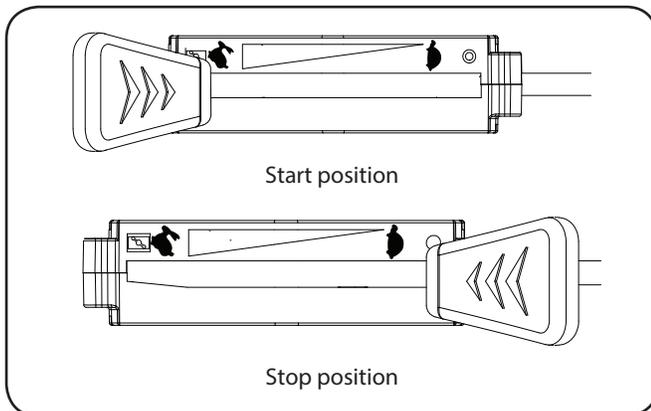

Figure 5-1
**NOTE:** Throttle control is only equipped to certain model mowers. Throttle control marked for "Stop" , "Start" , and "Run"  positions. Refer Fig. 5-1.